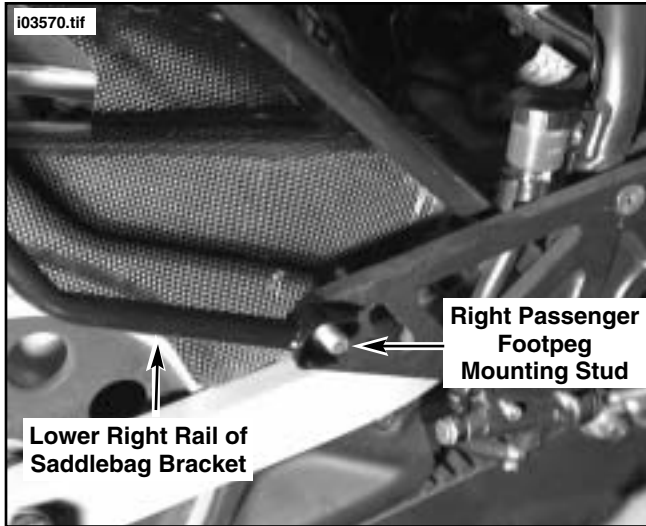

Figure 2. Place Lower Mounting Bracket Rails onto Footpeg studs (Right Side Shown)
7. See Figure 2. Following instructions in applicable Service Manual, remove the left and right passenger footpeg assemblies, however leave mounting screws (studs) in place within the frame mounts. Save footpegs for re-installation.
- b. See Figure 2. Place the left and right lower rails of the mounting bracket over the respective left and right footpeg studs.